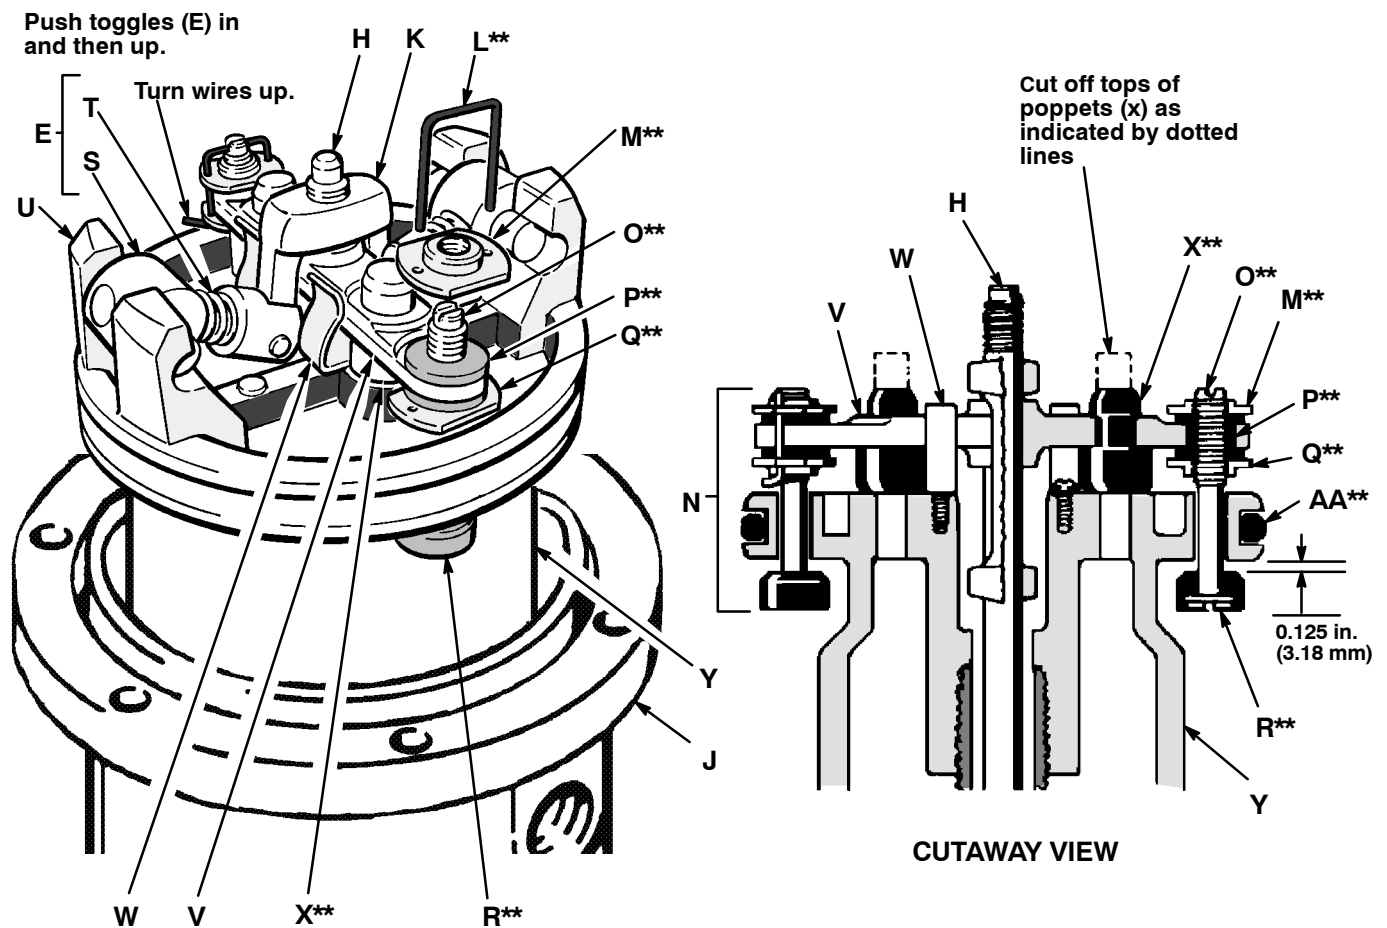

Fig. 3
Always keep fingers clear of the toggle assemblies (E), to avoid pinching or amputating them. See Fig. 3.
5. Use a screwdriver to push down on the trip rod yoke (K) and snap the toggle assemblies (E) down. See Fig. 3. Remove the lockwires (L) from the adjusting nuts (M and Q) of the transfer valves (N). Screw the top nuts (M) off. Screw the valve stems (O) out of the grommets (P) and lower adjusting nuts (Q). Take the valve poppets (R) off the stems and squeeze them firmly to check for cracks.
6. Grip the toggle rockers (S) with a pliers. Compress the springs (T) and swing the toggle assembly (E) up and away from the piston lugs (U), and remove the parts. Check that the valve actuator (V) is supported by the spring clips (W), but slides easily into them. See Fig. 3.
7. Remove the trip rod yoke (K), valve actuator (V) and trip rod (H). Check the exhaust valve poppets (X) for cracks.
4. Be sure the o-rings are in place. Slide the piston rod down through the throat bearing and lower the piston (Y) into the air motor base (J).
5. Pull the exhaust valve poppets (X**) into the valve actuator (V) and clip off the top part shown with dotted lines. See Fig. 3.
6. Install the transfer valve poppets (R**) onto the valve stems (O**), then reassemble the valve stems (O**), bottom adjusting nuts (Q**), grommets (P**), and top adjusting nuts (M**) on the piston (Y). Assemble the trip rod (H), valve actuator (V), trip rod yoke (K) and toggle assemblies (E) on the piston. See Fig. 3.
7. Set gap on inlet valve (N) using the .125 in. (3.18 mm) side of gauge 171818. Rotate valve stem (O**) until snug against gauge, then back off until valve stem slot is lined up with wire holes in valve nut (M**) (do not back off more than 1/2 turn). See Fig. 3. Install lockwires (L**) in the adjusting nuts M** and Q**.
8. Snap the toggle assemblies (E) to the *up* position. Reinstall the cylinder (G) and hold the trip rod (H) in place with tool 207579. Apply a medium strength thread locking compound to the threads of the trip rod (H) and assemble the cap nut (F) to the trip rod (H). Torque the cap nut (F) to 60 lb-in (6.8 N-m). Install cap nut (F) into cylinder (G).